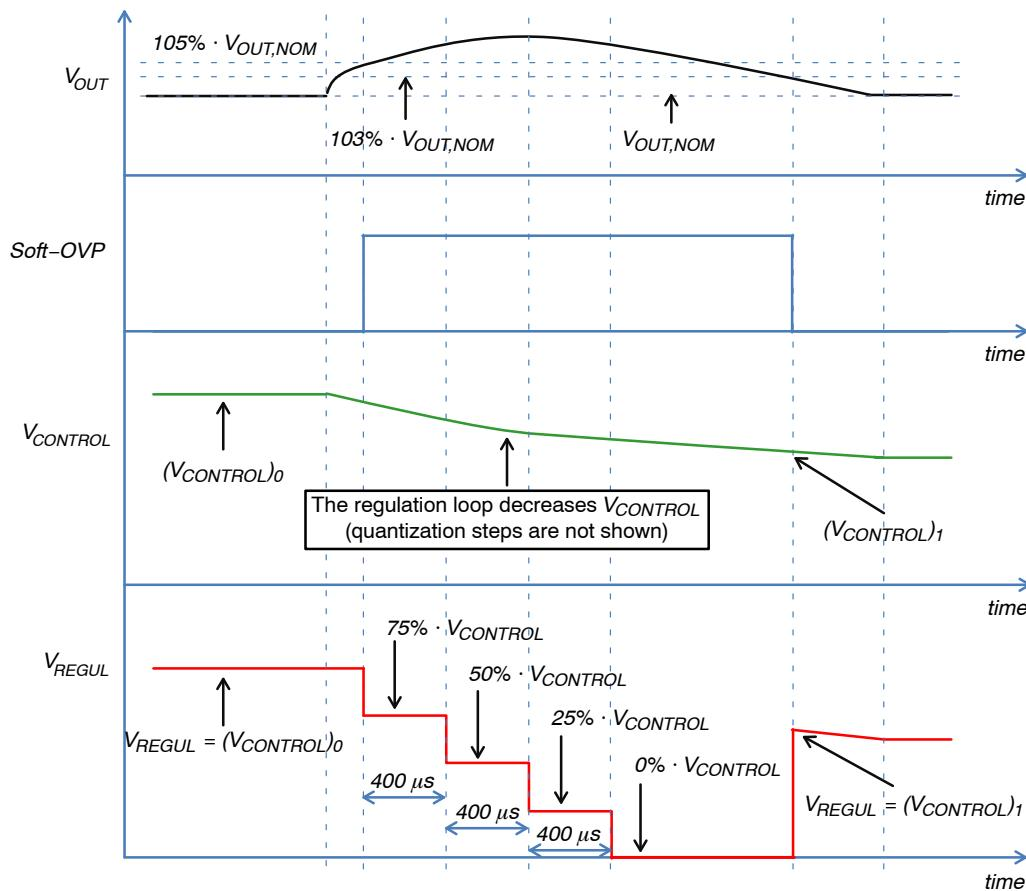

Figure 14. Soft-OVP
- Then, enters a soft-stop sequence to gradually reduce the line current and thus minimize the risk of audible noise. If the output voltage reaches the soft-OVP level (105% *V_{out,nom}*), the protection trips and the 4-step stop illustrated by Figure 14 takes place.